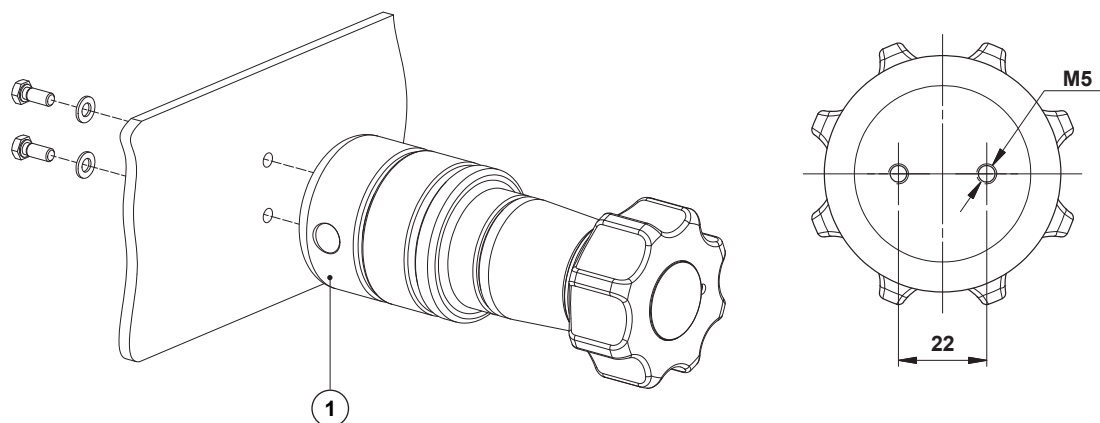

Fig. 3 - Bottom mounting procedure
To mount the pressure regulator using the optional bottom mounting holes, drill two Ø5,5 mm holes on the mounting surface 22 mm apart from each other. Secure the regulator body (1) to the surface using two M5 washers and screws (not supplied). See Fig. 3.